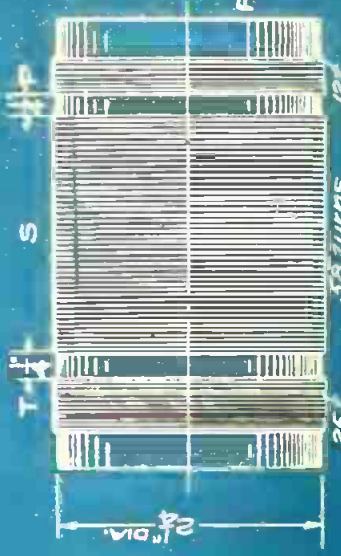

FIG. 1c
The output of the first tube passes through the primary (P) of the special transformer (RFT-2) which transfers the radio frequency current to the detector tube (T2). This coil (P) is located about 1-4 inch from the end of the secondary coil (S), and at the other end of (S) is the tickler coil (T) provided for regeneration in the detector stage. All three coils are in fixed relation on the same tube, and the detector circuit is tuned to wavelength by the variable condenser (C2) connected across the secondary coil (S). The tickler (T) has about 25 turns, the secondary (S) has 58 turns and the primary (P) is a 12 turn coil. The general details of this coil or transformer are shown by Fig. 1C, but it may be found necessary to give a few more or less turns on (T) until the proper regeneration is obtained with the vernier rheostat (R2) turned to the "half-on" position.